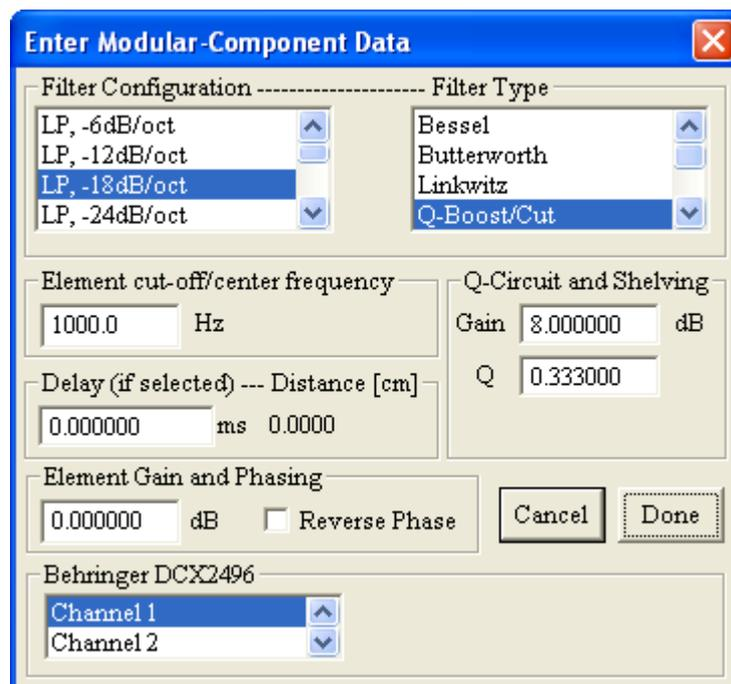

Figure 9.53. F-component control box
12. Phase inversion. **The A15 is really redundant, as you can invert phase by checking the “Reverse Phase” box on Fig 9.53.**